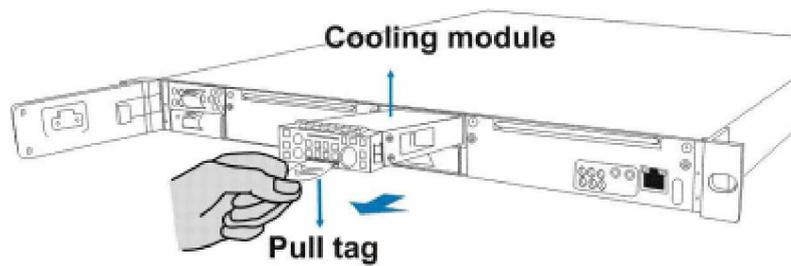

Figure 5-10: Removing the Cooling Module
- Step 2. Remove the cooling module** from the controller head by pulling on the plastic pull tag on the module. (See **Figure 5-10**)